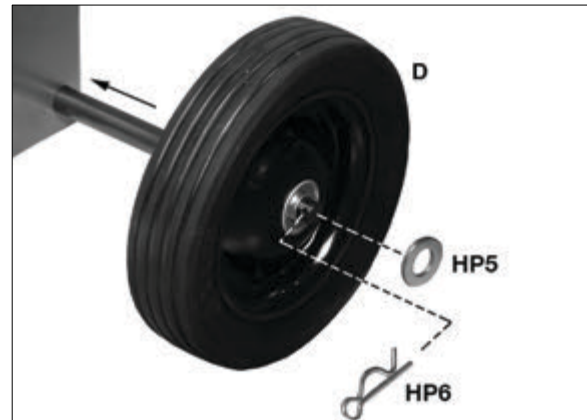

Figure 6-3: Installing Wheels
2. Slide axles through holes in stand and install four wheels with flat washers and cotter pins (Figure 6-3). Bend ends of cotter pins to secure wheel, then carefully lower saw to floor.